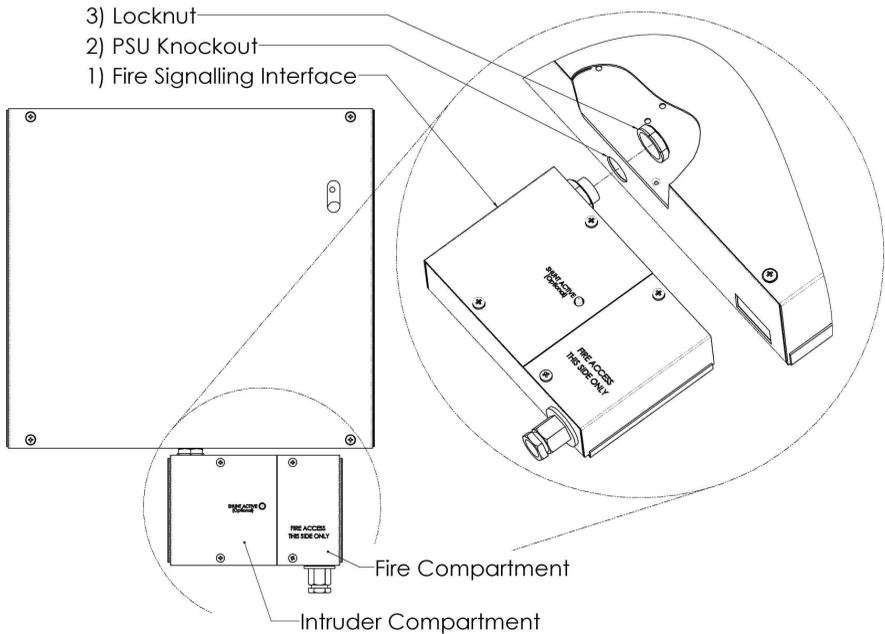

Fig 4.0 Mounting of FSI
- 2) Align FSI to 20mm knockout in lower face of PSU enclosure and couple together using 20mm bush and locknut supplied, see Fig 4.0.